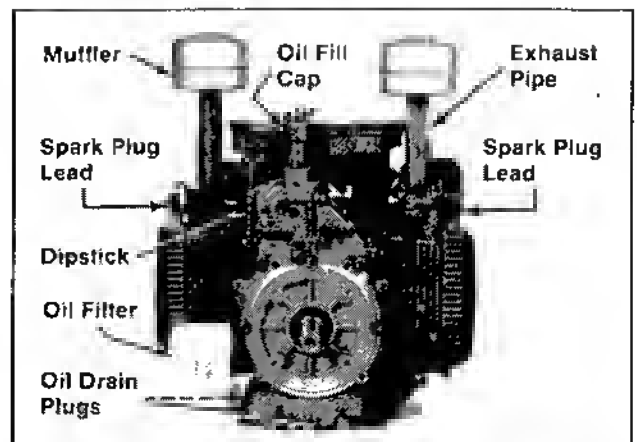

Figure 9-1. Removing Spark Plug Leads, Oil Drain, Oil Filter, and Mufflers.
1. Remove the oil fill cap, dipstick, and oil drain plug. Drain the oil from crankcase. Refer to Figure 9-1.
1. Remove the mufflers and exhaust pipes. Refer to Figure 9-1.